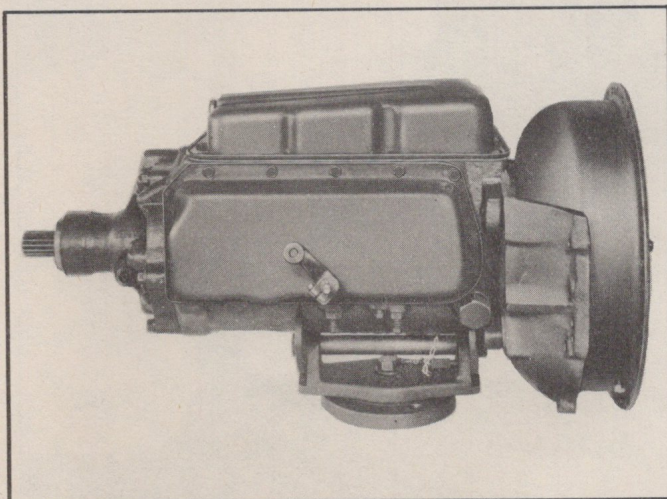

Fig. 107—Transmission Mounted in Holding Stand J-2541
2. Place transmission and fluid coupling assembly in fixture on bench (Fig. 107).